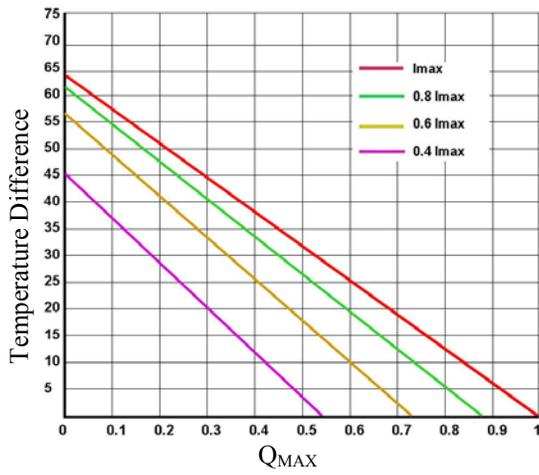

Figure 2. Temperature Difference vs. Q_{MAX}
5. Use the charts provided in Figure 2 to Figure 9, to decide which TEC to use, what is the heat needed to be dumped through the heat sink, what is the heat sink temperature, etc.